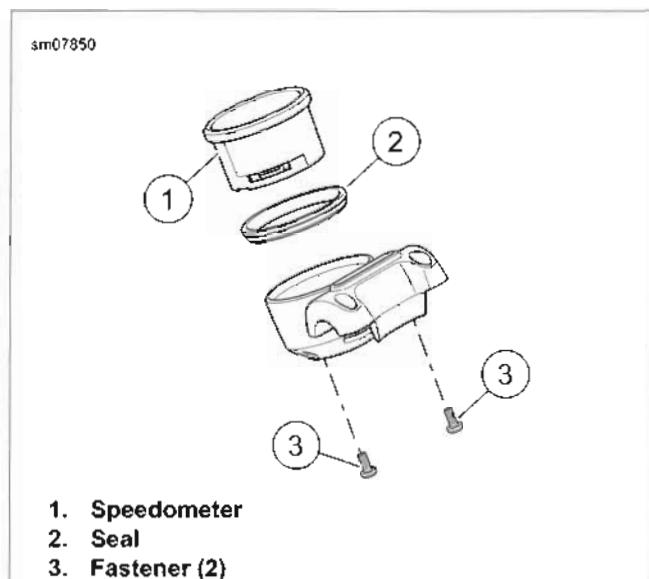

Figure 7-86. Speedometer: FXSB
1. See Figure 7-86. Remove fasteners (3).
1. See Figure 7-86. Install speedometer (1) with seal (2).
3. Install fasteners (3). Tighten to 12-17 **in-lbs** (1.4-1.9 Nm).